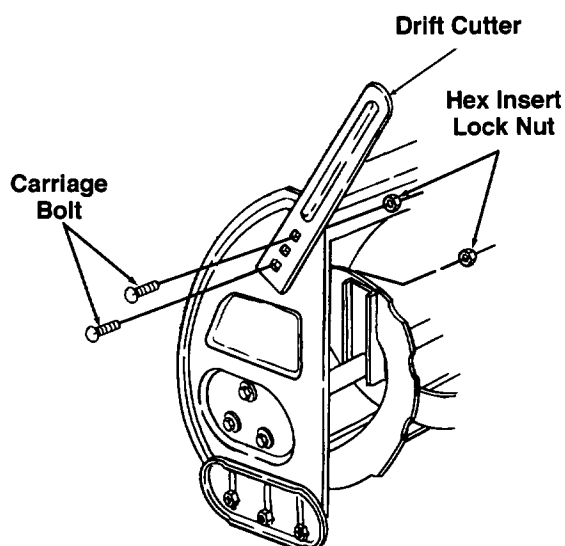

Figure 26
Drift cutters on both sides of the auger housing can be adjusted to the up position for a higher cut. Refer to Figure 26 and proceed as follows:
- Turn the drift cutters to the up position and secure with the carriage bolts and lock nuts as shown in Figure 26.